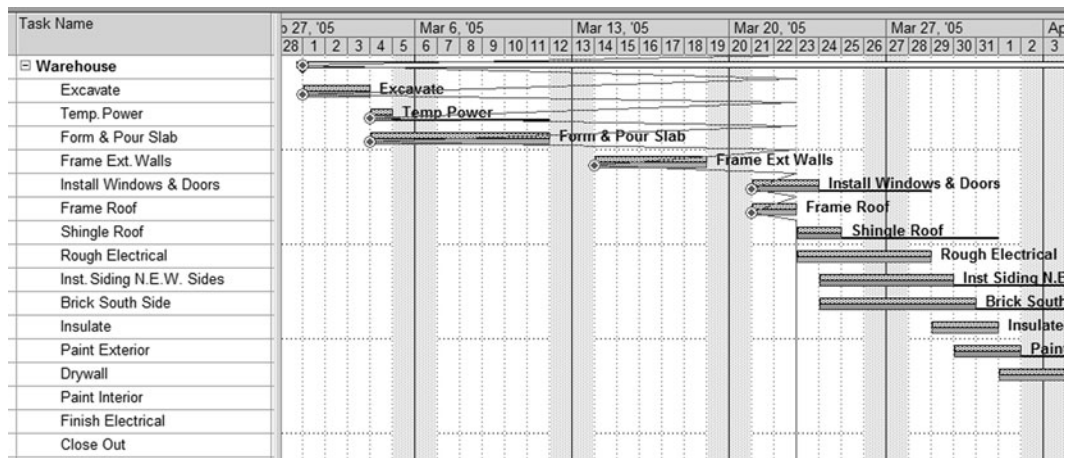

FIGURE 22.24 Status date lines
3. **Format the bars** to show the baseline by using the **Gantt Chart Wizard**. Use the following steps within the wizard: (A) Open the wizard by clicking on the Gantt Chart Wizard button ; (B) Custom Gantt Chart; (C) Critical displayed differently—Yes; (D) Next; (E) Next; (F) Next; (G) Next; (H) Baseline & Slack; (I) Custom Task information; (J) select name to right of the bar; (K) Next; (L) Next; (M) No links or as desired; (N) Format It and Exit the Wizard. Now you see the target bars on top of the current bars.
5. **Show the Status Date Line** (Today’s Date) by selecting **Tools, Tracking, Progress Lines**, and normally you would put a check mark by **Always Display** and then select **Current Date**. However, for this project select the **Status Date** in order to fool the program into thinking a future date is today. You are going to update the schedule on the day that *Frame Roof* should have been completed by (note that date). Select **Project, Project Information**, then enter that date as the **Status Date**. This fools the program into thinking that that date is today. Again, normally you simply choose the **Current Date** which will be the date of the update. The schedule should now look similar to Figure 22.24.